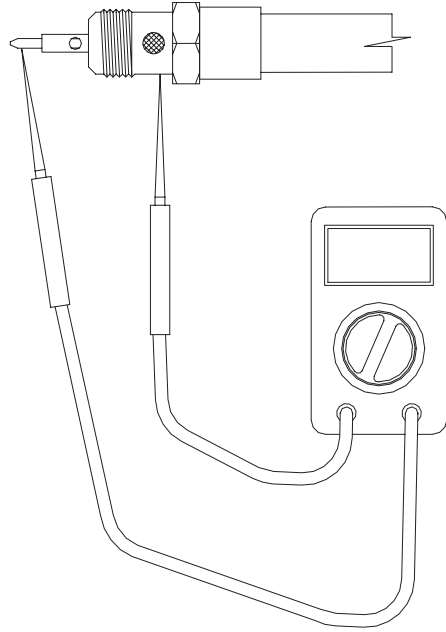

Figure 17. Checking the Coax Connector for a Short
- 3 Check the connector for shorts as shown in Figure 17.